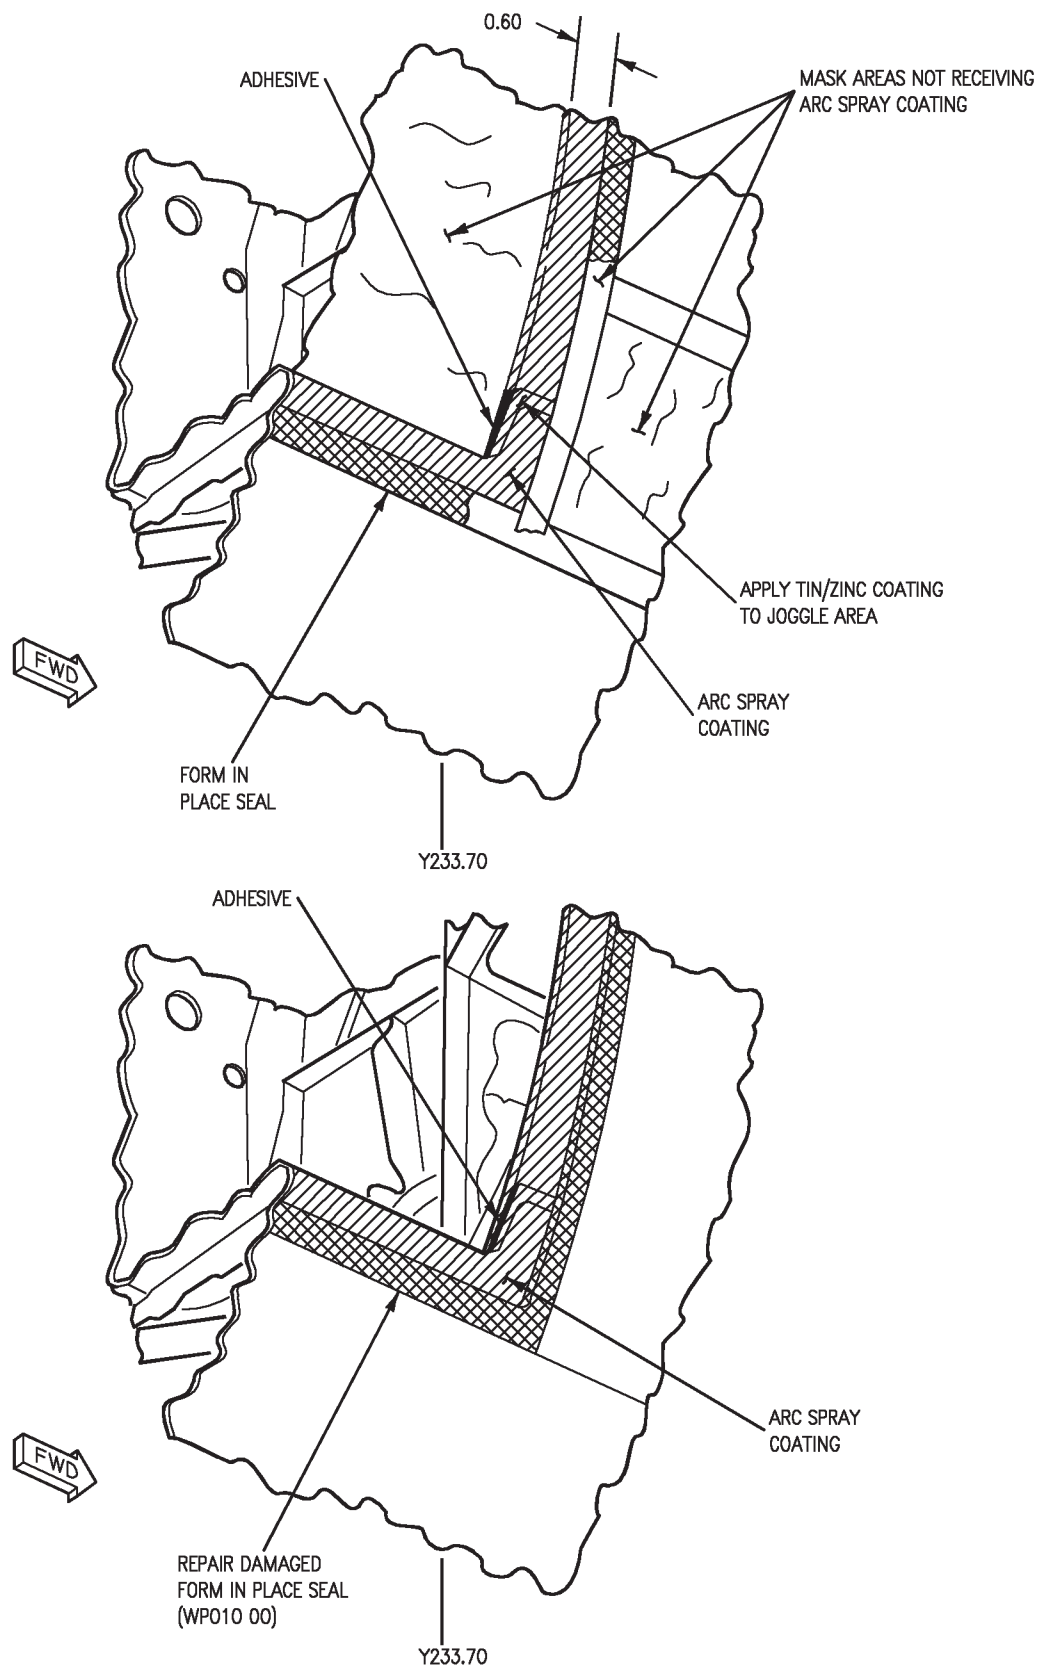

Figure 5. Application of Arc Spray to Joggle Area
r. Mask areas not receiving arc spray coating using 250-1 inch pressure sensitive tape and untreated kraft paper. See figure 5.